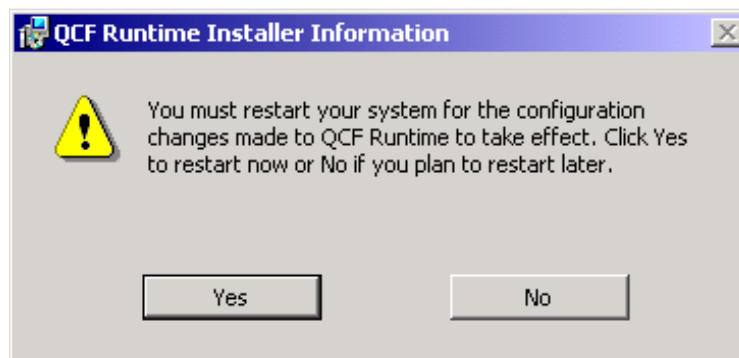

FIGURE 172. Reboot request window
22. The window in Figure 172 appears.